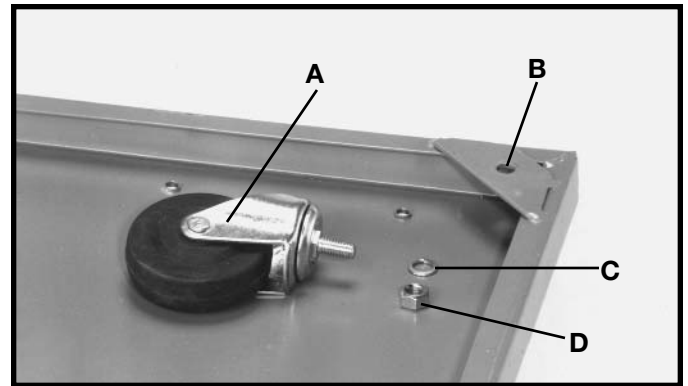

Fig. 4
1. Insert threaded rod of caster (A) Fig. 4, into the hole located on the underside of base (B) and fasten with 3/8" lockwasher (C) and 3/8-16 hex nut (D). Fig. 5, illustrates the caster fastened to the base.